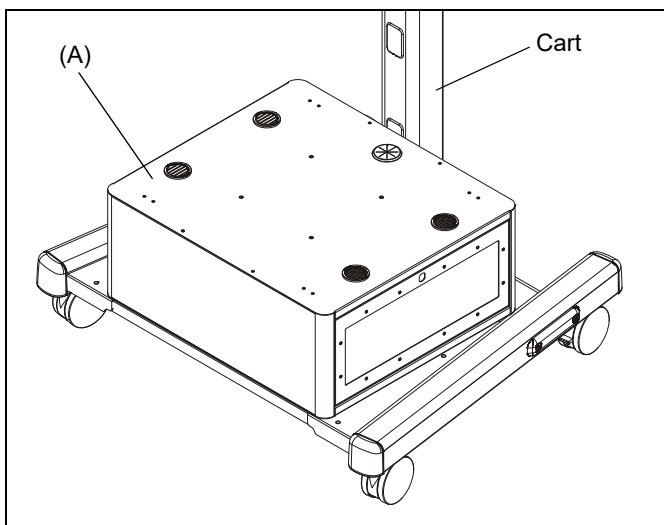

Figure 5
1. Place storage cabinet (A) on top of base support. (See Figure 5)